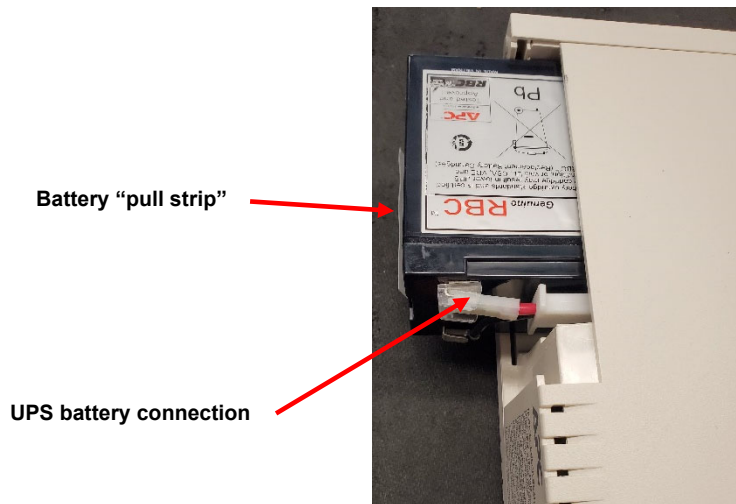

Figure 2-3 – UPS battery connection
- (e) Use the battery "pull strip" to partially remove the battery (see Figure 2-3).
- (f) Push the UPS quick disconnect onto the battery tab (see Figure 2-3).